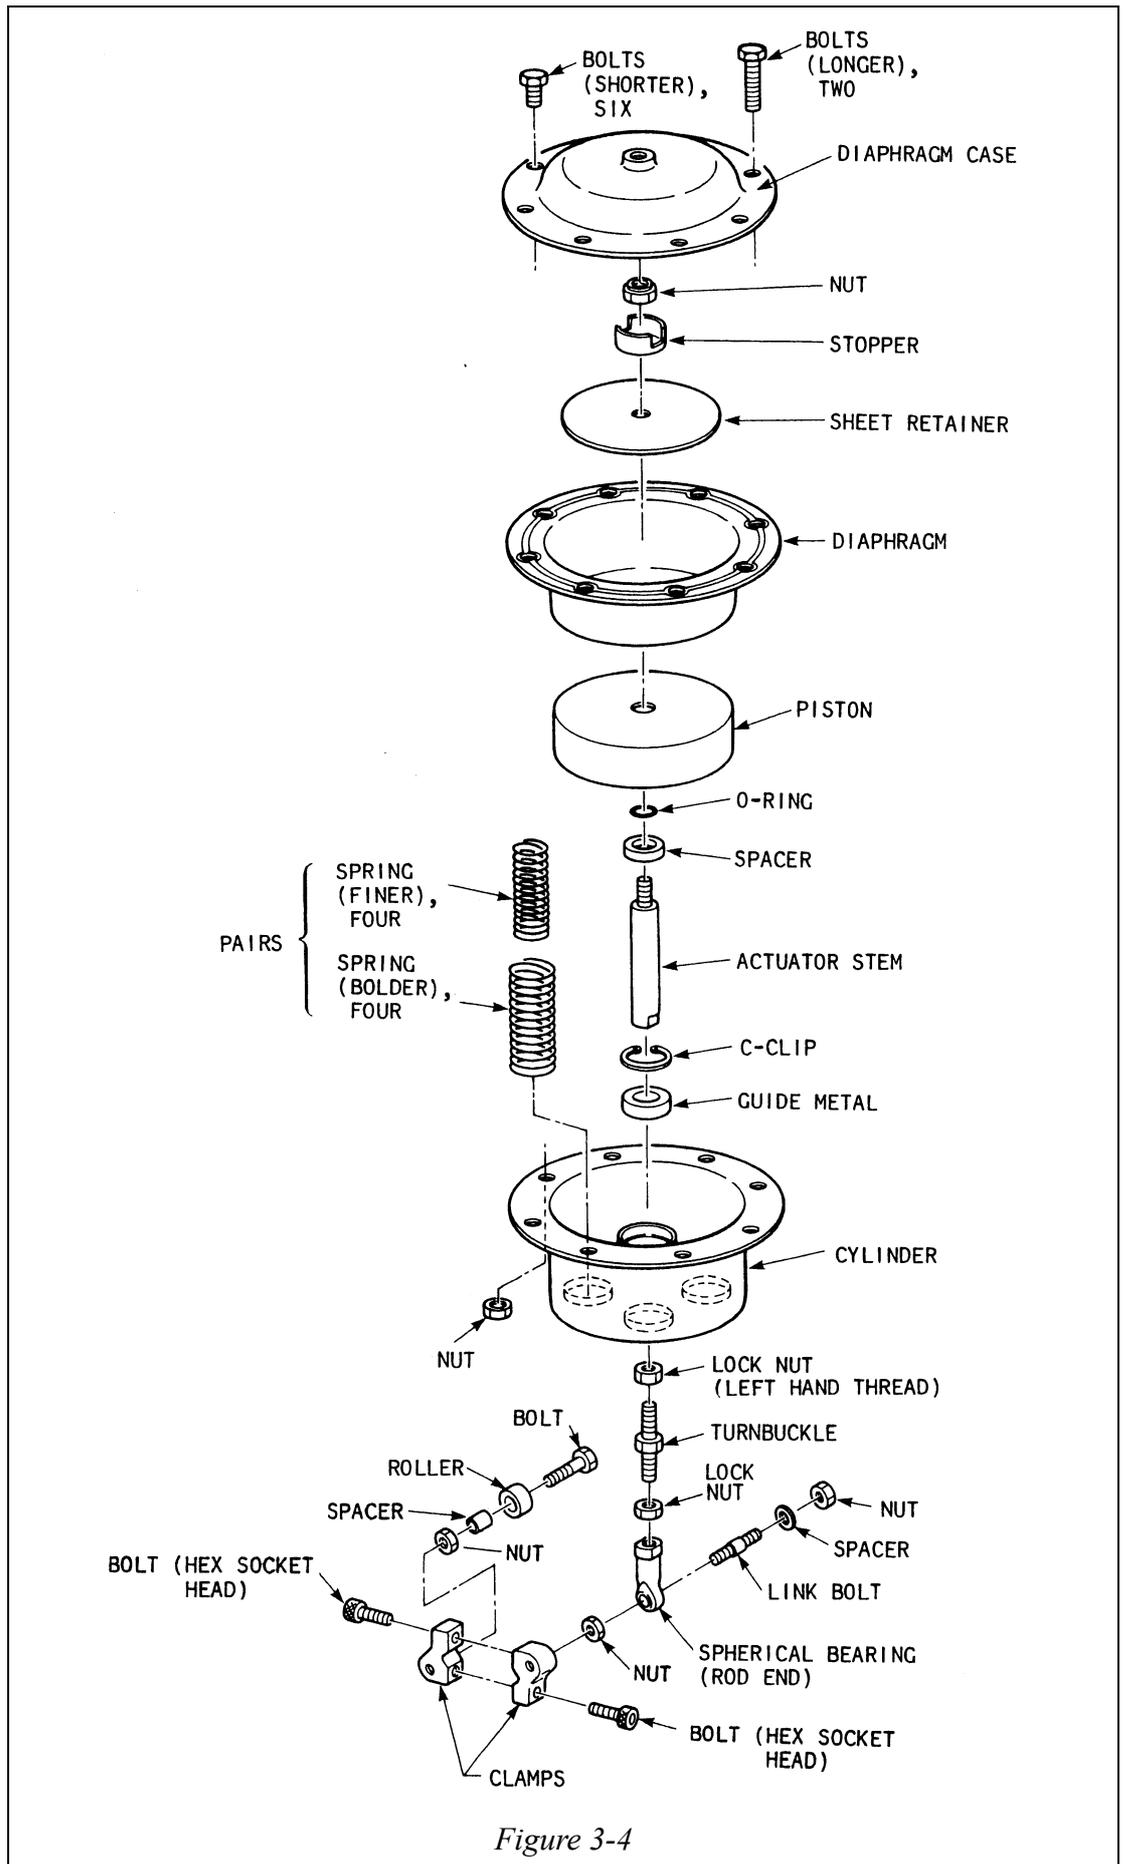

Figure 3-4
- (1) Provide air piping to the actuator through a pressure regulator.
- (2) Loosen the two lock nuts (one is right hand threaded and the other, left hand threaded) on the turnbuckle, and release the turnbuckle by rotating it in the direction that its threaded sections become more exposed. (See Figure 3-2 and Figure 3-4)
- (3) By adjusting the pressure regulator, apply to the actuator a pressure corresponding to the upper limit of the spring range if the valve is in direct-action mode or a pressure corresponding to the lower limit of the spring range if the valve is in reverse-action mode.
- (4) Use a wrench to rotate the hex section of the turnbuckle until rotation becomes heavy and the parts on the clamp shaft do not turn any further. The rotating directions are as follows:
- (3) For a reverse-action valve, since the initial compression force is being applied to the actuator stem, loosen both lock nuts (one is right hand threaded and the other left hand threaded) and then release the turnbuckle by rotating it in the direction that its threaded sections become more exposed.
- (4) Remove the clamps by removing their screws (hex socket head type). (See Figure 3-4.)
- (5) Remove the four bolts which fix the bracket to the valve body, and remove the actuator from the valve body.
- (6) Loosen the turnbuckle further and remove it from the actuator stem.
To disassemble the actuator for parts replacement or servicing, follow the procedure described below. (See Figure 3-4.) When disassembling the actuator, take care not to damage the diaphragm or piston.
- (1) Remove the actuator from the valve body. (See “3-3 : Removing actuator from valve body” and Figure 3-4.)
- (2) While excluding the two longer bolts which are located at mutually opposite positions, remove all clamping bolts and nuts from the diaphragm case (top). (See “3-3 : Removing actuator from valve body” and Figure 3-4.)
- (3) Alternately and uniformly loosen the two longer clamping screws and remove the diaphragm case (top).
- (4) Take out the cut section of the diaphragm from the cylinder, raise the bottom of the piston, and remove the piston section from the cylinder.
- (5) Remove the top nut by applying a wrench to the two flat cutaway planes at the bottom of the actuator stem. Remove the piston, diaphragm, sheet retainer, stopper, spacer, and O-ring.